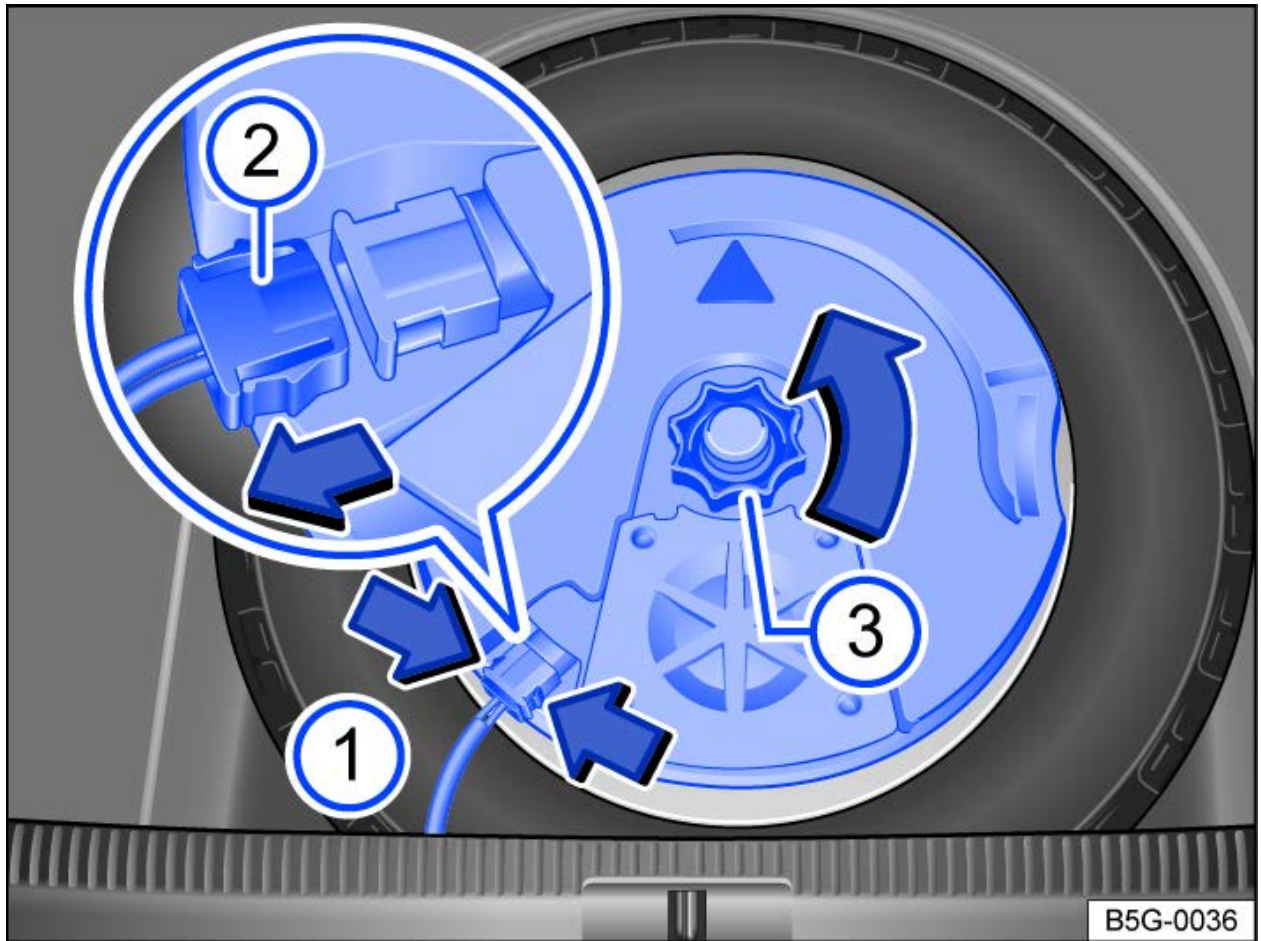

Fig. 1 In the luggage compartment: removing the subwoofer (version 1).
- To release the connector, press the → *fig. 1* (2) tabs together → *fig. 1* (arrows (1)).
- Remove the connector → *fig. 1* (2) in the direction of the arrow and set the removed electrical wire to the side.
- Remove the handwheel → *fig. 1* (3) in the direction of the arrow.